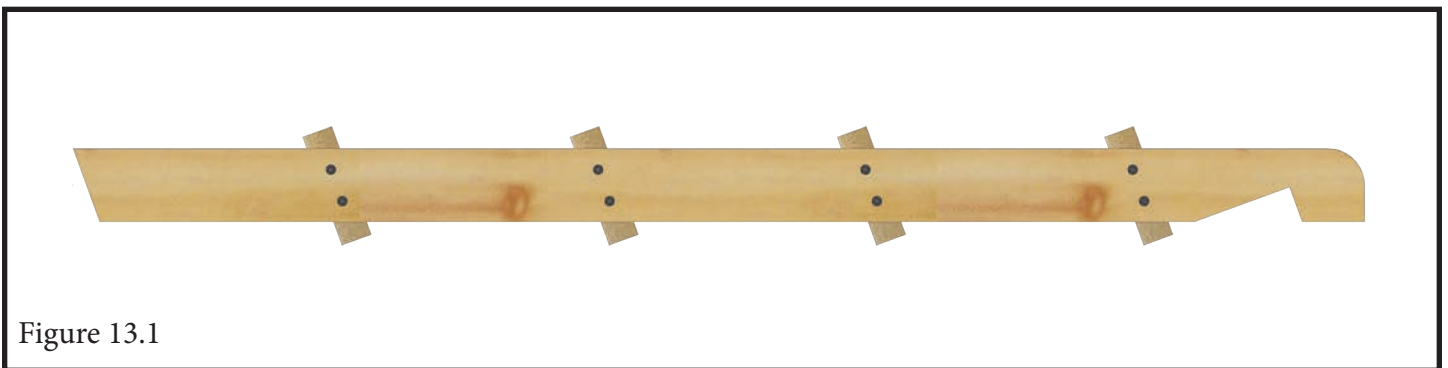

Figure 13.1
13.1 Place Ladder Steps into Dado pockets of Ladder Runners as shown in Figure 13.1.
13.2 Pre-drill and fasten Steps with 4" Screws as shown in Figure 13.1.